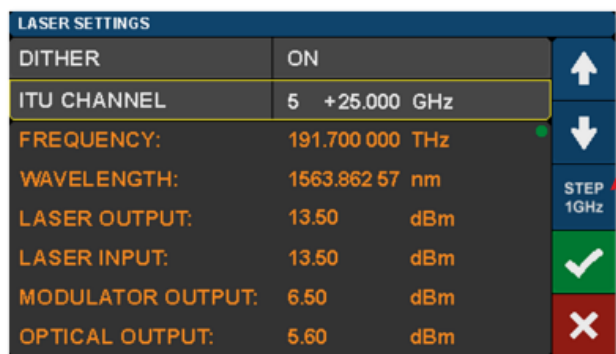

Figure 8 Laser Settings Page of the MX40G
- Navigate to the Laser Settings Page, which is shown in Figure 8, from the Home Screen